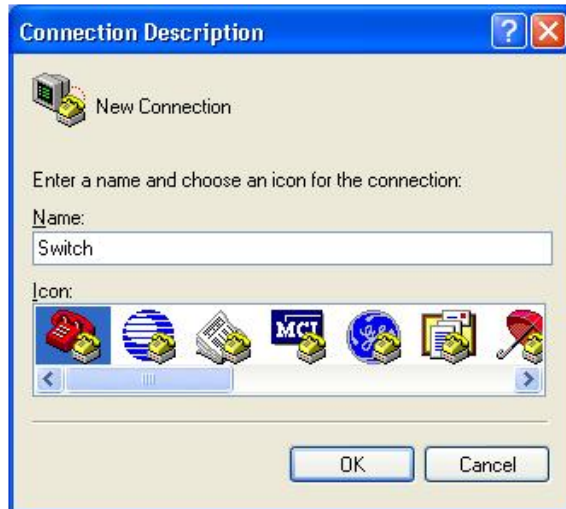

Figure 28 Creating a Connection
Step 4: Create a new connection "Switch", as shown in Figure 28.